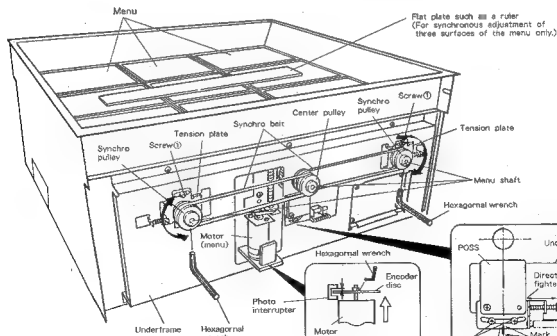

Fig. 7-1
- Synchronous adjustment of three surfaces of the menu (Fig. 7-1)